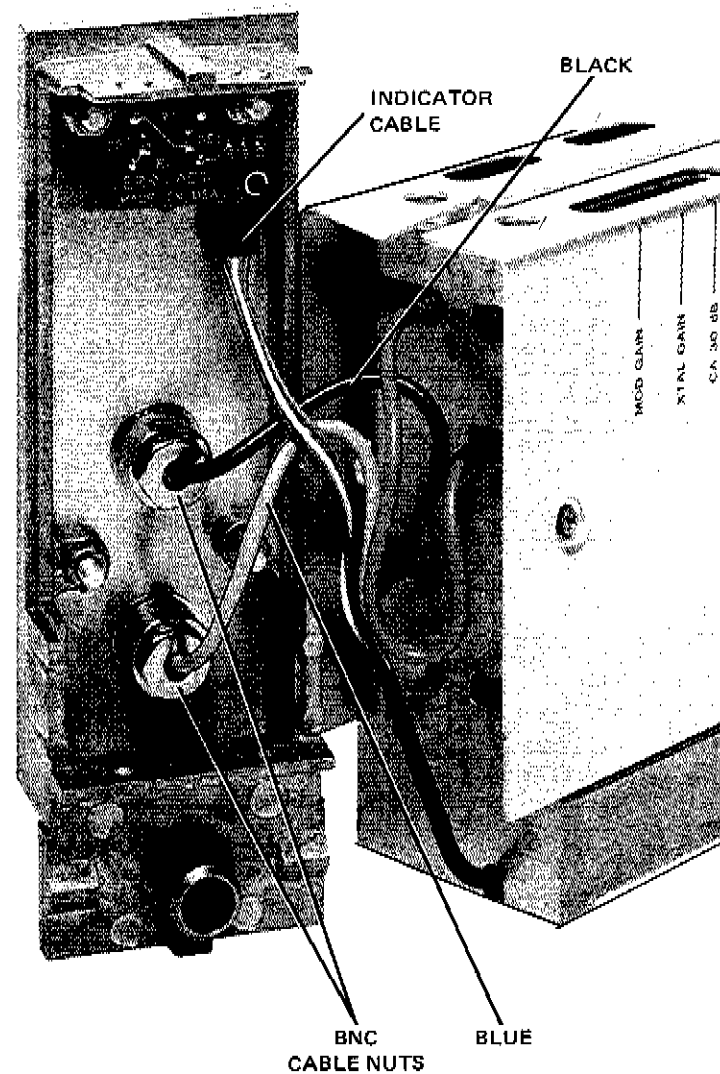

Figure 17. IF Front Panel Removal
2. Unscrew the back-side cable nuts from both BNC connectors, and remove both cables. See Figure 17.